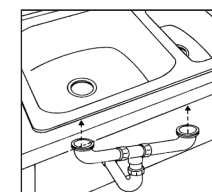

Figure 5
6. Attach all plumbing connections to the house drain line and water supply tubing. Apply a bead of silicone caulk around the perimeter of the sink where it meets the counter to seal any gaps. Fill the sink with water and leave it overnight to add weight and help it settle in place. Afterward, retighten the sink clips if necessary. (Figure 5)